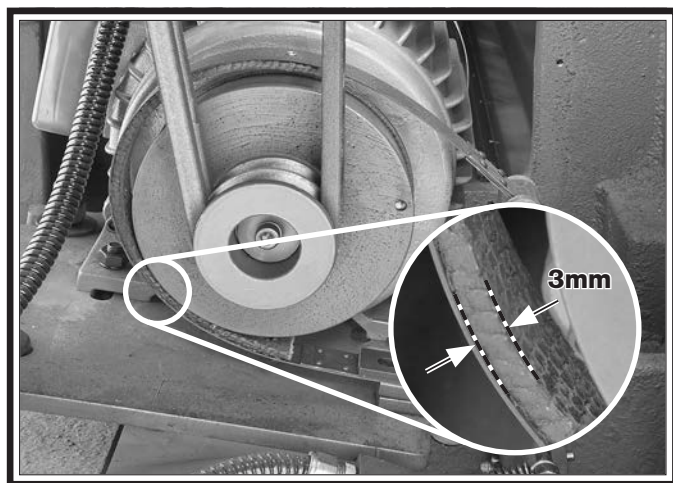

Figure 134. Minimum brake belt thickness.
4. Measure the remaining brake band lining at the thinnest point, which is usually at the 8 o'clock position, as shown in **Figure 134**.